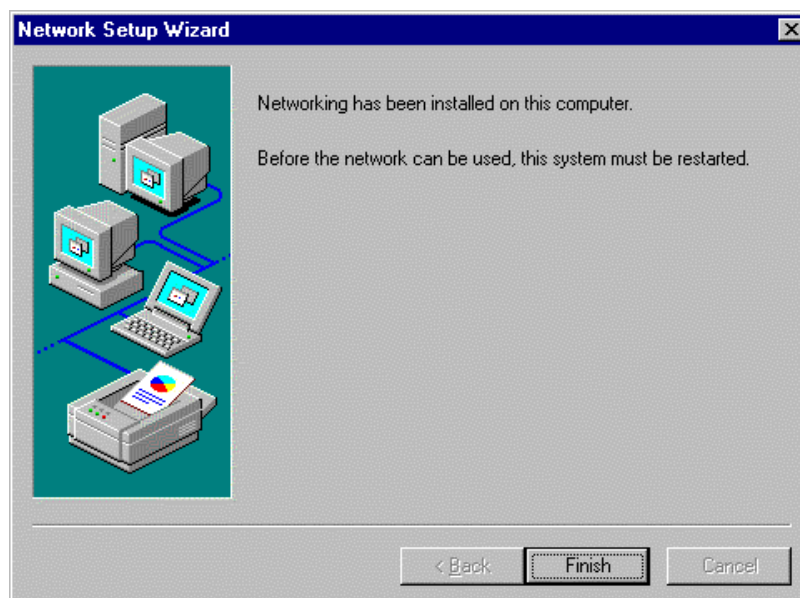

Fig. 8-19
- In the next dialog box (Fig. 8-19), select "Finish" to confirm.